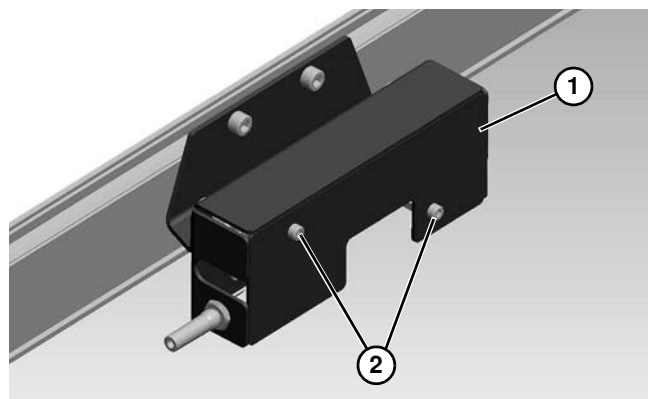

Figure 23
5. Install cover (**Figure 23, item 1**) with two screws (**Figure 23, item 2**).